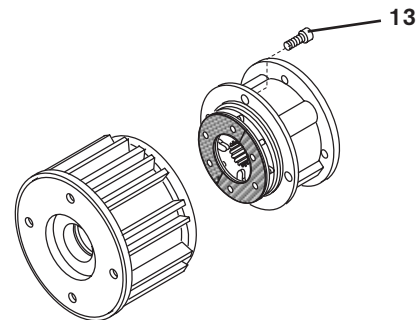

FIGURE 15
1. Remove the four Socket Head Cap Screws (Item 13) and separate the two halves of the FMCBE (See Figure 15).